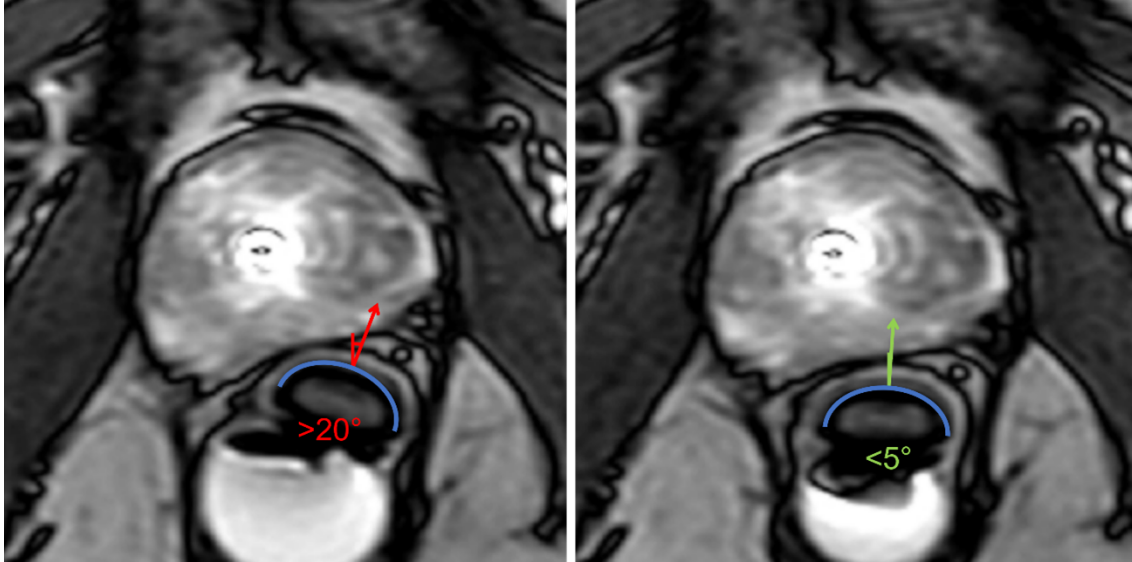

Figure 31: Axial images depicting ECD oriented incorrectly (left, rotated more than 20 degrees) and correctly (right, facing up towards the prostate)
- b. The orientation of the cooling window should face the prostate (anterior), as confirmed on the axial MRI (*Figure 31*).